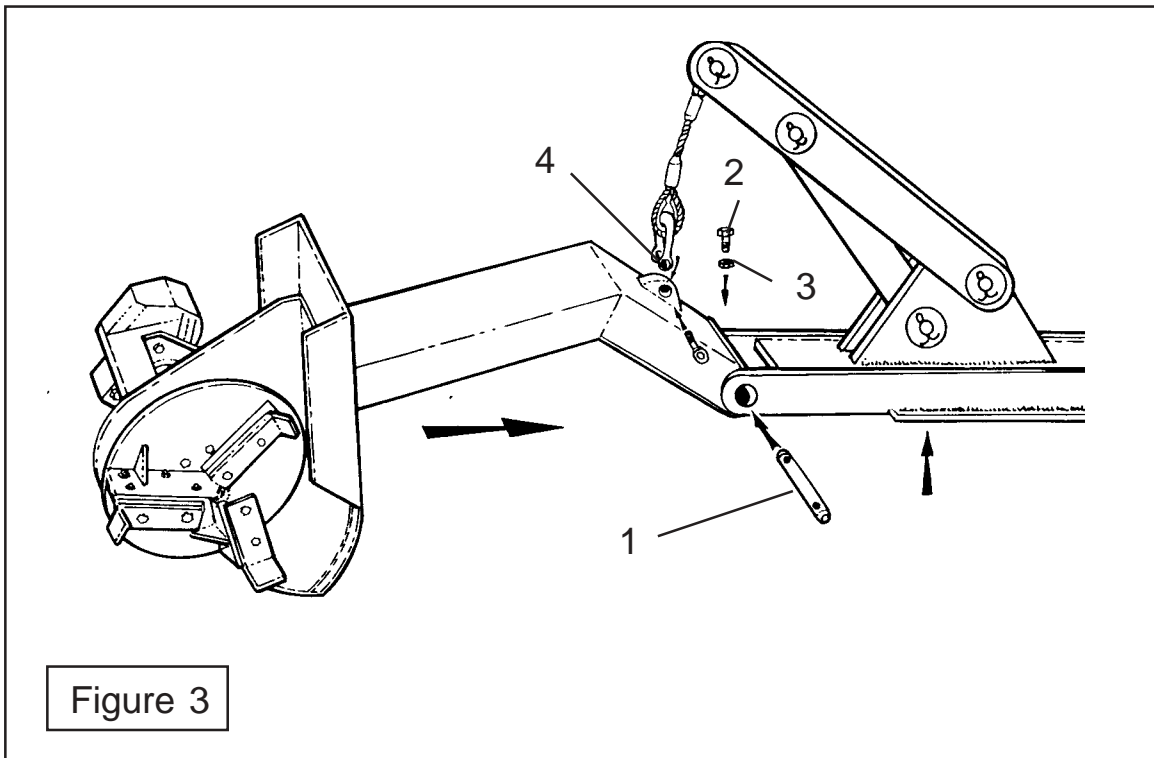

Figure 3
3. Fasten Versa Ditcher and Extension Arm together using Pin (Item 1 P/N 02880700), Bolt (Item 2 P/N 10318000) and Nut (Item 3 P/N 00001800). Attach the Linkage Arm Weldment to the Versa Ditcher with Shackle and Screw Pin (Item 4 P/N 02880200). (See Figure 3).
4. Attach Hydraulic Hoses as illustrated (See Figure 3). Refer to your Operator's Manual and Parts Listing for part numbers and Hydraulic Schematic. Tighten any leaking Hydraulic Fittings. If fluid still leaks, loosen the fitting, apply a thread compound to the threads and tighten. Care must be taken when tightening Hydraulic Fittings. Too much tightening can cause the fittings to crack and require replacement fittings. Please use recommended hose end torque values. See Charts in General Information section or operators manual..